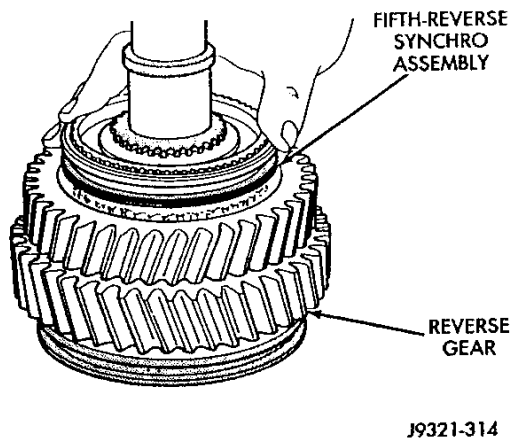

Fig. 48 Fifth-Reverse Synchro Installation
(19) Install fifth-reverse synchro assembly (Fig. 48). Be sure reverse gear blocker ring is aligned in synchro before proceeding. Use pipe tool to press synchro into place if necessary.